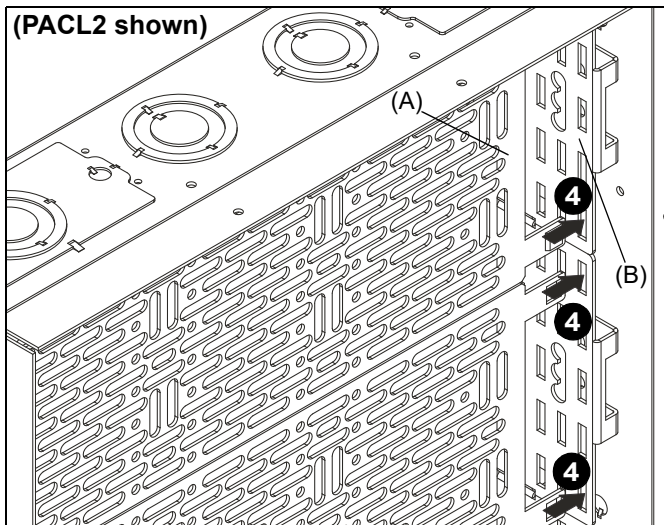

Figure 2
4. Slide Lever Lock™ backplanes (A) into adapter (B) slots on one side of PAC box. (See Figure 2)